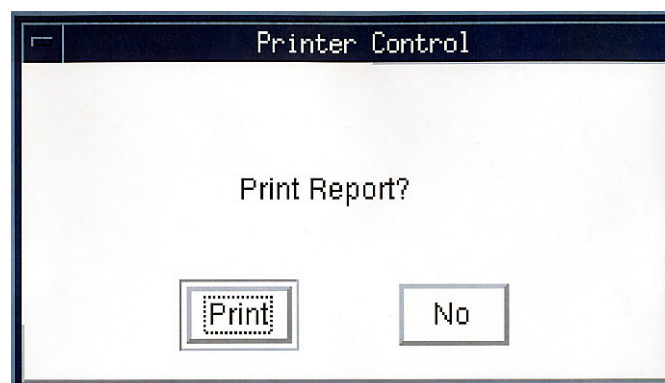

Figure 31
- 333 In the "Printer Control" dialog box under "Print Report?" click the "Print" button to print the report. See Figure 31.